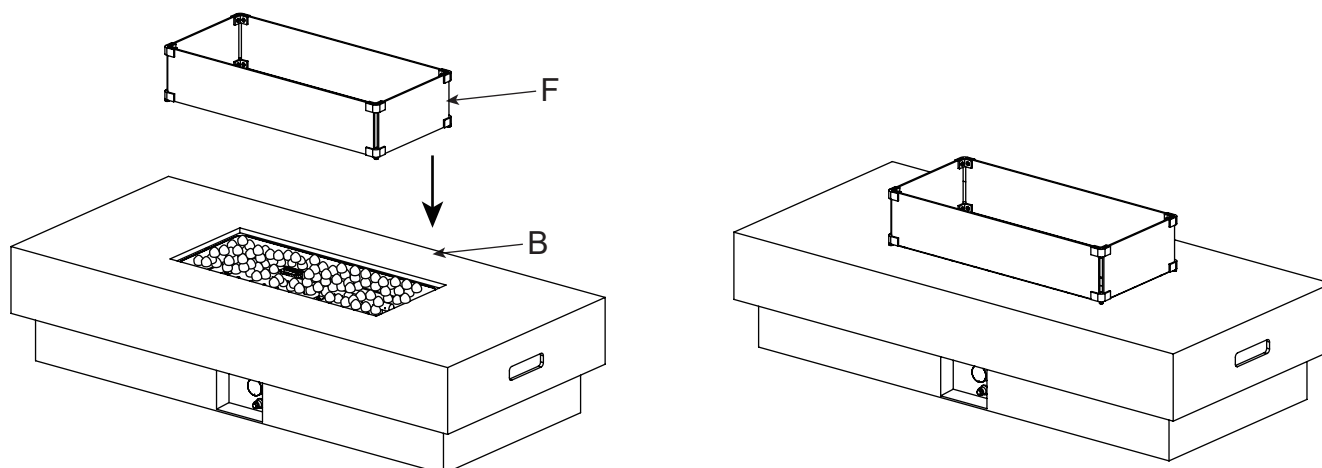

Figure 13
12. Place the assembled glass windshield (F) onto the firepit body (B) carefully and tenderly (see Figure 13).